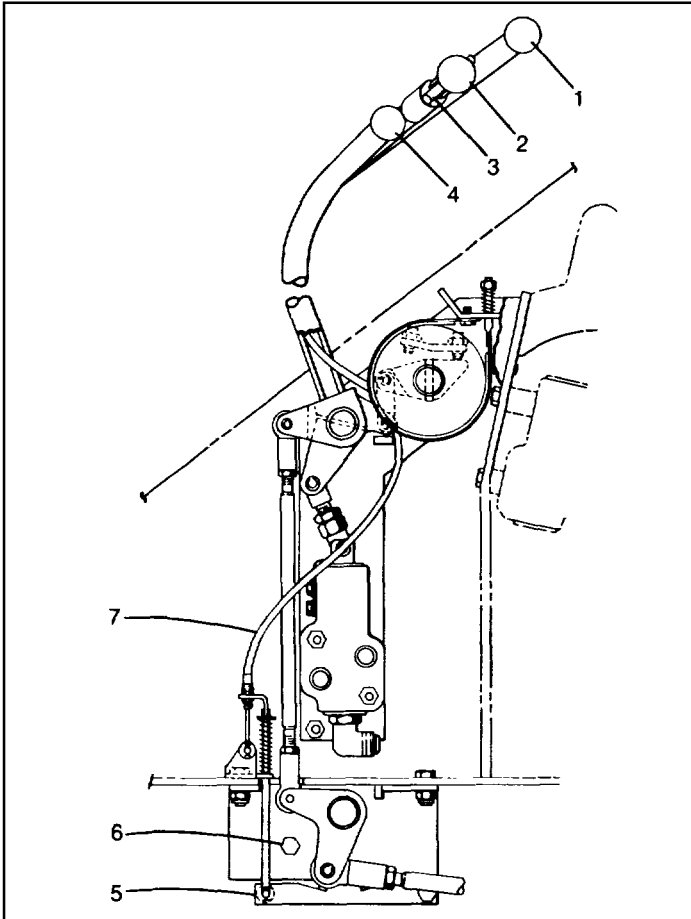

Fig. 2 NA210-D
- (1) 18J35 14 Ga.
- (2) 18J240 18 Ga.
12.4 Swing Lock Control Adjustment (Refer to Fig. 2)
- (a) Disengage swing lock lever to latched position, adjust capscrew (6) to have 1/16" (1.6 mm) clearance between head and ball joint.